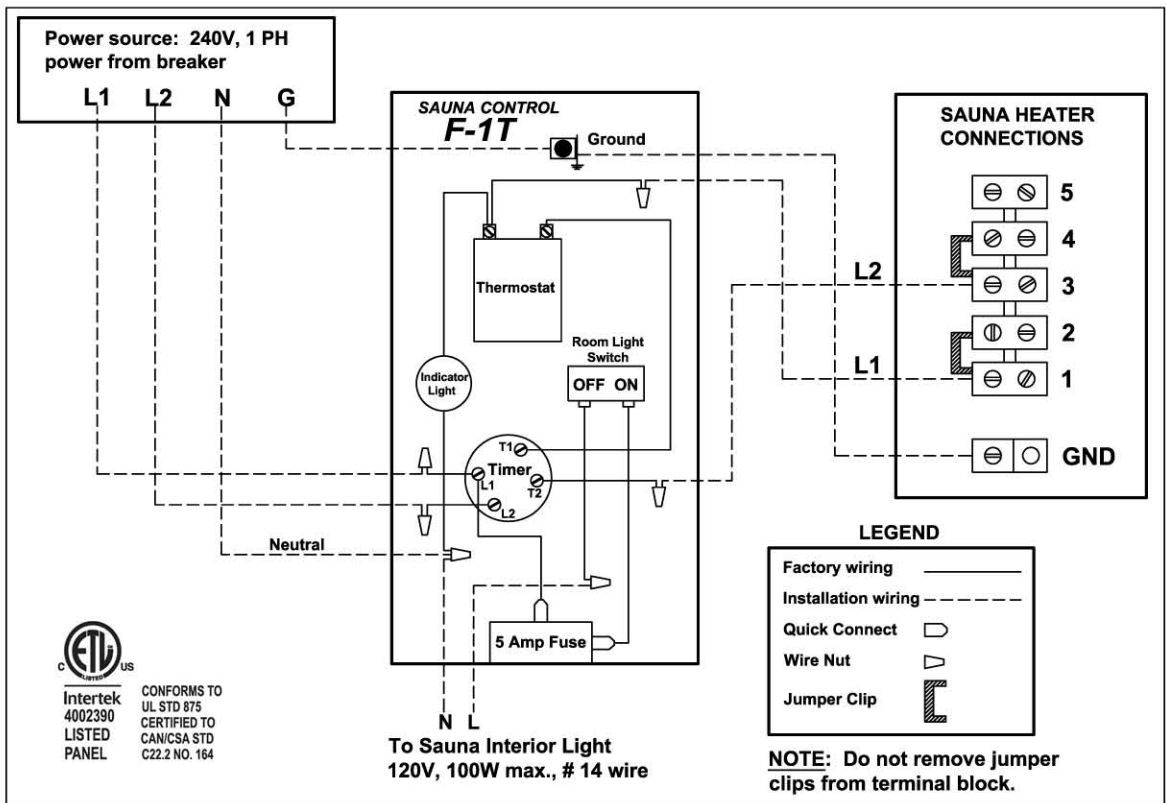

Figure 6. Use this diagram for wiring and hookup.
- See fig. 6–8 to match control to heater model. Locate control in wall, 5' up from floor, so that panel faces outward from room. Punch out one of knockouts in roughin box and push rubber grommet (provided) into knockout hole. Bring capillary tubing with sensing bulb out through grommet and through stud wall, so that capillary bulb tip is located 6" from ceiling inside Sauna room & about 12" away from side of Sauna heater, taking care to avoid sharp bends in tubing (to prevent damage to tubing and liquid within). Extra tubing can be coiled up inside wall. Nail or screw metal bulb holder to wall and thread capillary bulb through holder to secure it.